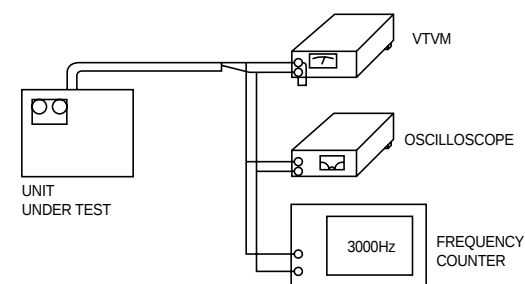

Fig.1-10
- 1) Connect the equipments as per Fig.1-10 to adjust the tape azimuth with test tape (recorded at 6.3KHz : MTT-113N)
- 1) Connect the equipments as shown in Fig.1-10 adjust the tape speed with test tape (recorded at 3KHz : MTT-111N)